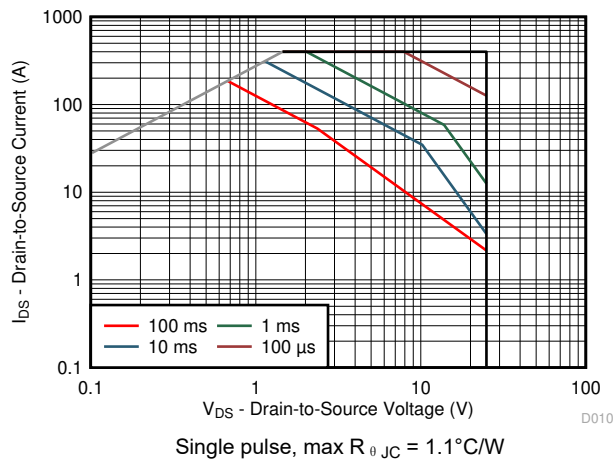

图 4-10. Maximum Safe Operating Area
- Changed 图 4-10 text From: $R_{\theta JA} = 92^{\circ}\text{C/W}$ To: Typical $R_{\theta JA} = 93^{\circ}\text{C/W}$4